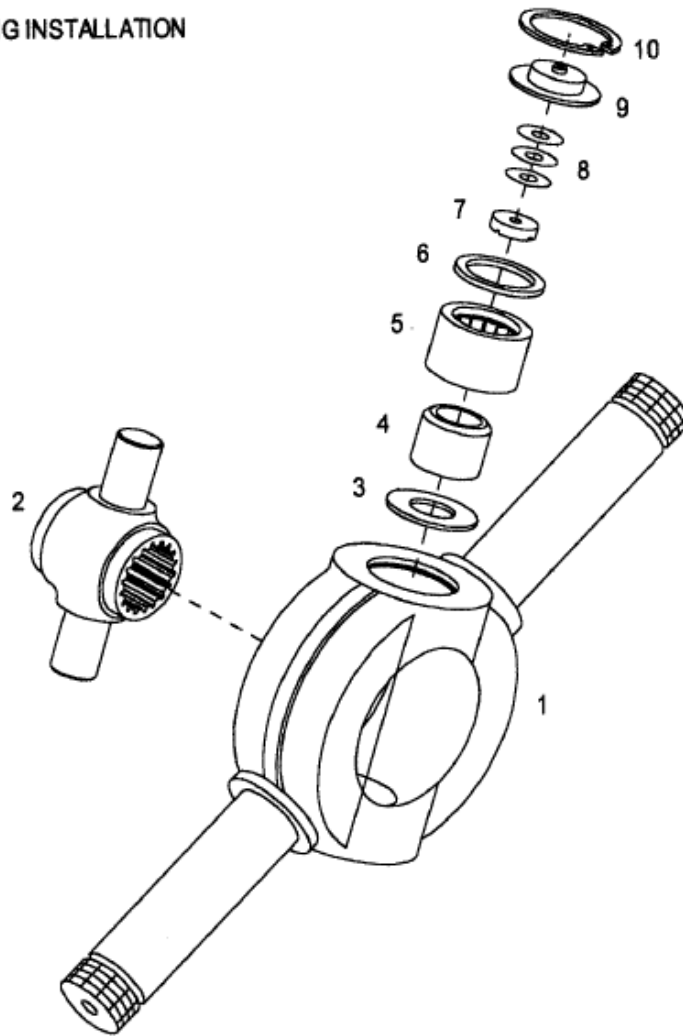

FIGURE 1 - TAIL ROTOR NEEDLE BEARING UPDATE KIT INSTALLATION
- 5.1 Install the tail rotor needle bearing upgrade kit (P/N 28-01056) into the spindle P/N 28-150074-11 using the following procedure (Reference Figure 1, Page 5):